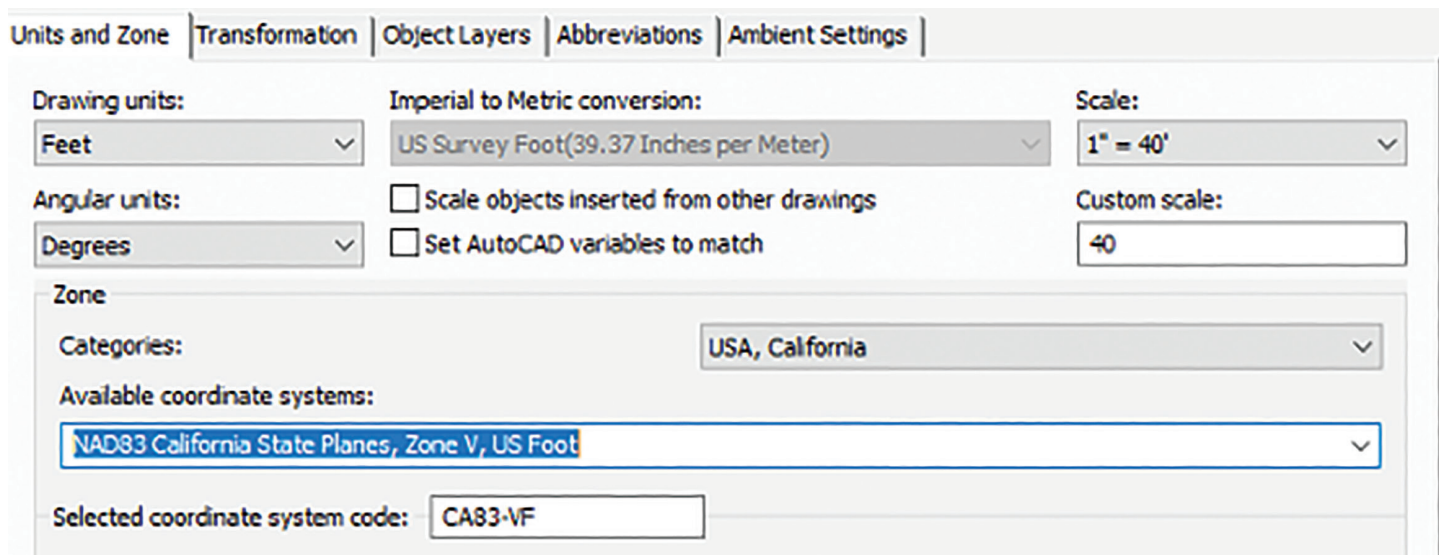

Figure 9
2. Toolspace > Settings > Drawing Settings > Units and Coordinates > change the coordinate system to the state planes for the area of the project, those are the most commonly used. (Also note Revit does not understand International Feet). See figure 9.